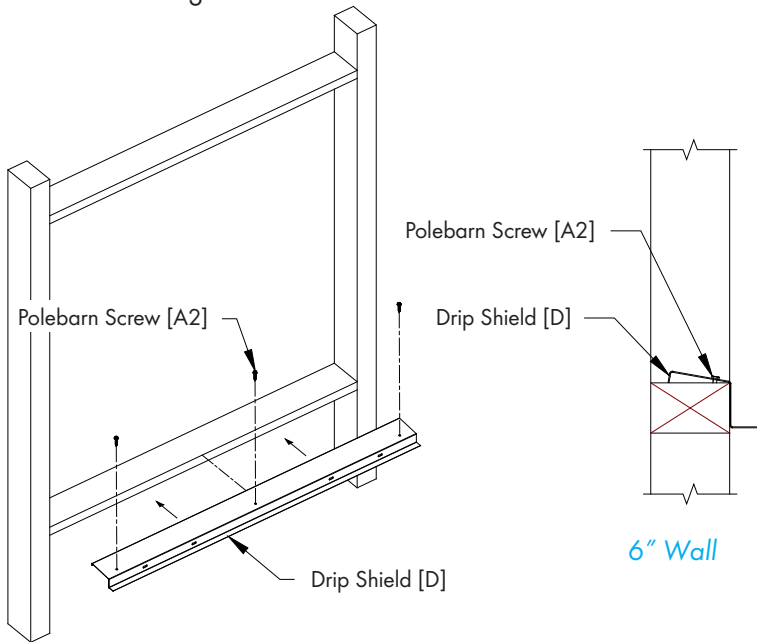
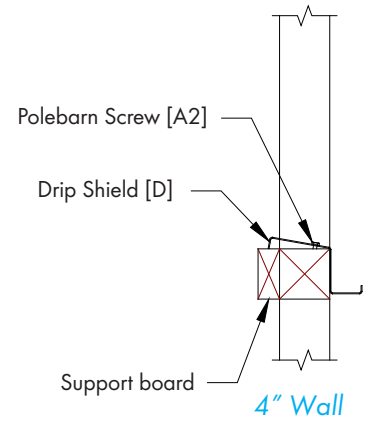

Figure 12A
Figure 12B
Attach Drip Shield [D] to bottom of framed opening using (3) Polebarn Screws [A2]. See Figure 12A and 12B. If a 4" wall is used a support board must be installed as shown in Figure 12B. Be sure not to deform Drip Shield when installing screws.